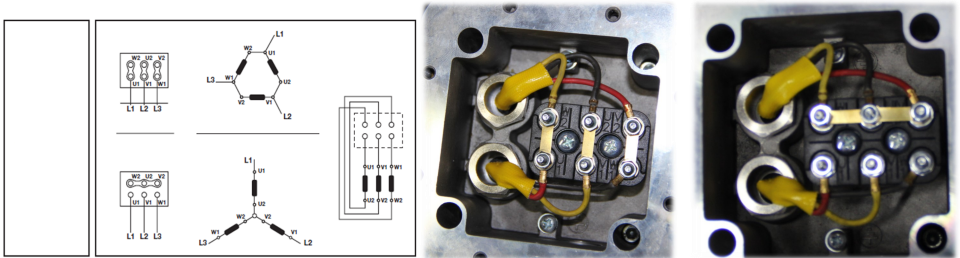

Figure 4: a) Star and delta connection diagrams, b) Delta connection sample for 230 V, c) Star connection sample for 400 V.
- Electrical connection in the terminal box must be made according to supply voltage (Figure 4-a).
2. The electric feed cable connected to pump as Figure 4.